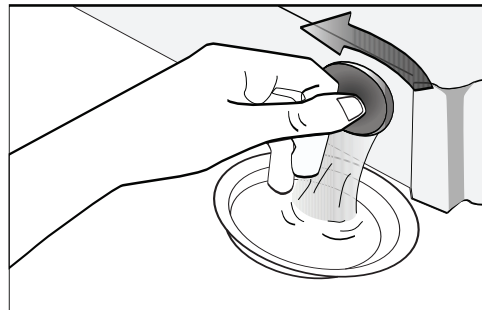

Fig. 11
2. Screw off the inlet pipe from tap and put its end into a container. (Fig. 11)